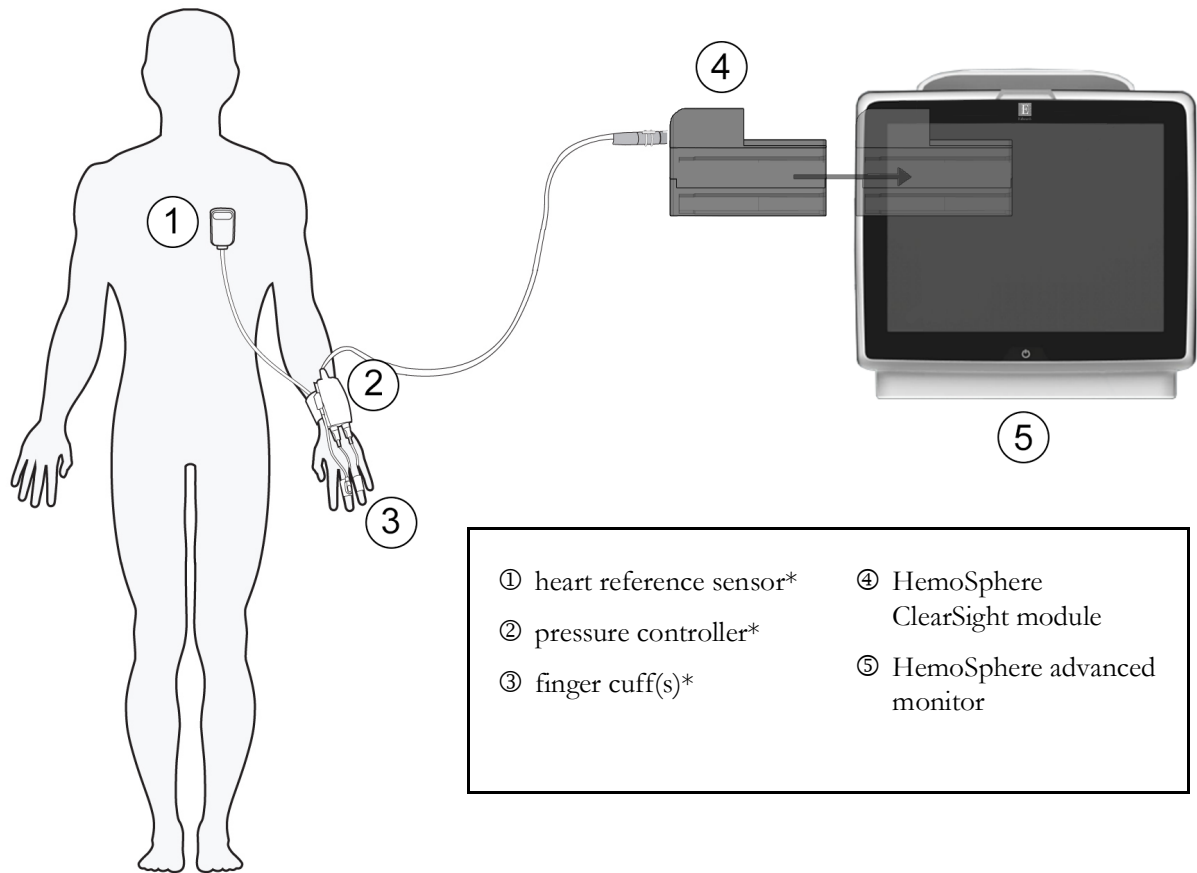

Figure 11-1 HemoSphere noninvasive system connection overview
The HemoSphere noninvasive system is composed of the HemoSphere advanced monitor with ClearSight module and connected pressure controller, heart reference sensor, and compatible Edwards finger cuff(s). See system connections in figure 11-1 on page 178. Accurate measurement of the patient's blood pressure and key hemodynamic parameters is based on the Volume Clamp method, Physiocal method and ClearSight algorithm.
The HemoSphere ClearSight module is compatible with all approved Edwards finger cuffs. See figure 11-1 for an overview of the HemoSphere noninvasive system connections.
NOTE Components indicated by * figure 11-1 legend are APPLIED PARTS as defined in IEC 60601-1 that in normal use necessarily come into physical contact with the patient for the HemoSphere noninvasive system to perform its function.
- 3** Attach the pressure controller cable to the HemoSphere ClearSight module. (figure 11-1)